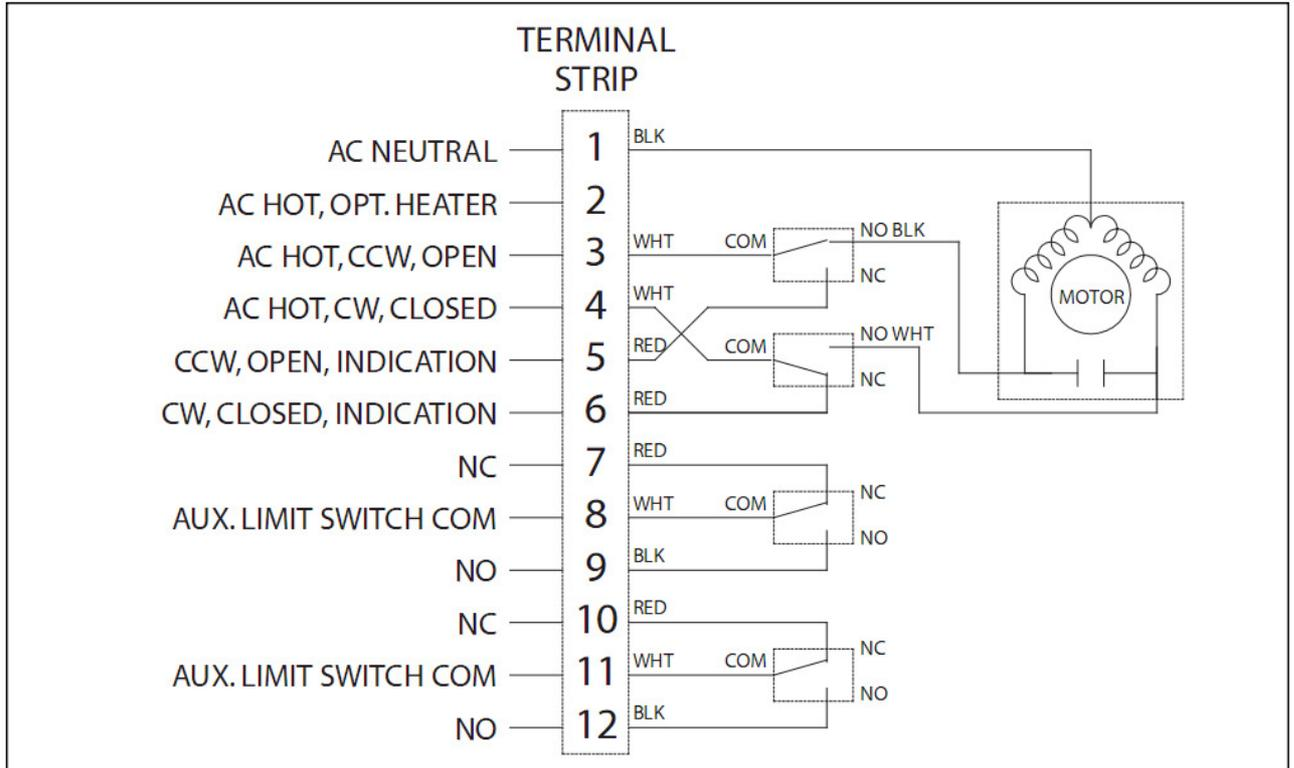

Figure 3A LRF Series AC Wiring
The actuator can be driven fully open (CCW) or closed (CW) by maintaining power to the motor until the actuator trips the internal limit switches. Power can also be disconnected at any point during the travel to position the actuator, (see Figure 3A)
- 2 Apply power to terminals 1 and 3 (See Figures 3A and 3B) to drive the actuator to the open position (counter clockwise rotation).
- 2 Apply power to terminals 1 and 4 (See Figures 3A and 3B) to drive the actuator to the closed position (clockwise rotation).